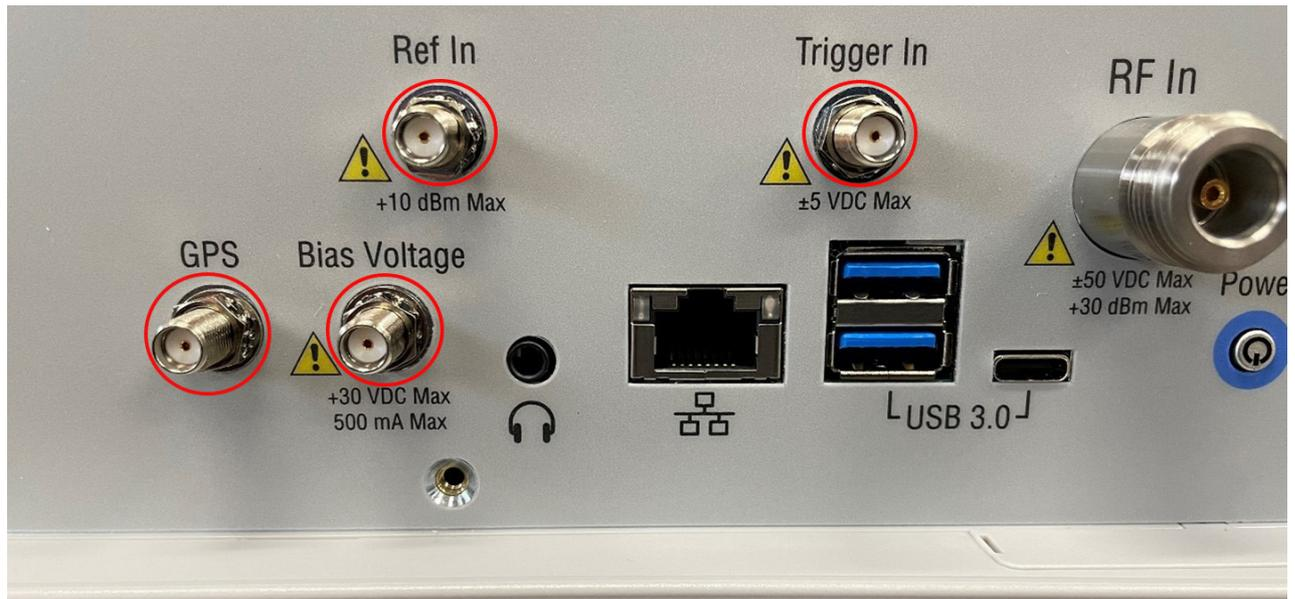

Figure 4-14. SPA PCB Removal
1. Remove the four nuts along with four lock washers from the SMA ports on the top connector panel using a 5/16" wrench. See Figure 4-14.